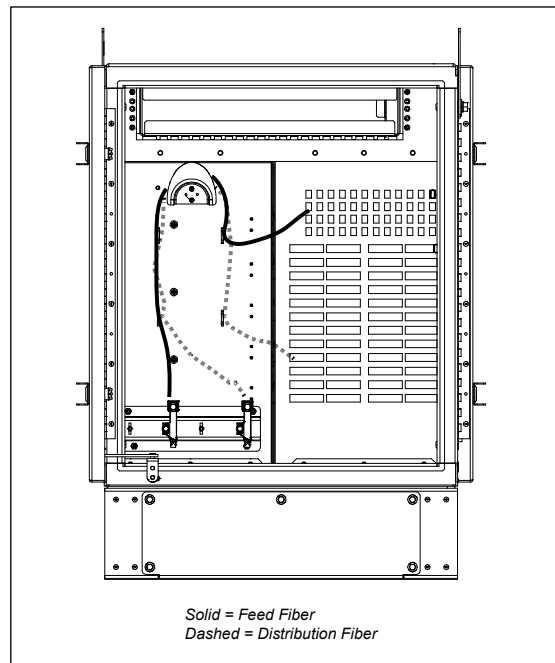

Figure 11 **Feed and Distribution Routing, Single Fiber Shown**
5. Route feed and distribution buffer tubes around the inside of the OHC, using the tie-down points to secure the buffer tube in place. Route the buffer tubes around the fiber management bracket and around to the feed and distribution adapter fields. Observe the proper bending radius for all buffer tubes. (Figure 11).
6. Feed Fibers: connect fiber fanouts to the input ports for the splitters. Observe the proper bending radius for all fanouts. Route the fiber fanouts, using the fiber management panels to the left of the splitter inputs (Figure 11).
7. Distribution Fibers: connect fiber fanouts to the output ports from the splitters. Observe the proper bending radius for all fanouts. Route the fiber fanouts, using the fiber management panels to the left of the distribution ports (Figure 11).